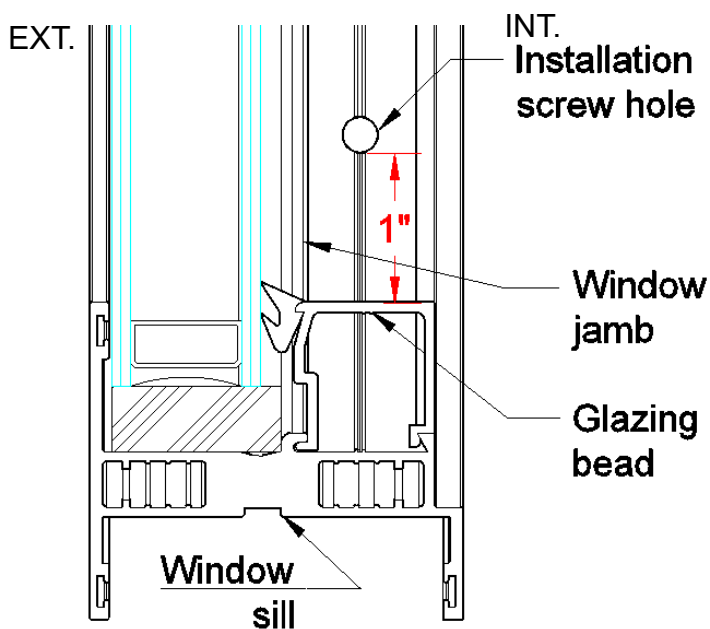

Figure 7: Side View of Jamb at Bottom
2.6 Drill a hole at the bottom of each jamb (refer to figure 7). Notice: the hole is around 1" far from the glazing bead on the window head, and align with the glazing bead, make sure the glazing bead on the jamb can cover it after reinstall the glazing bead.